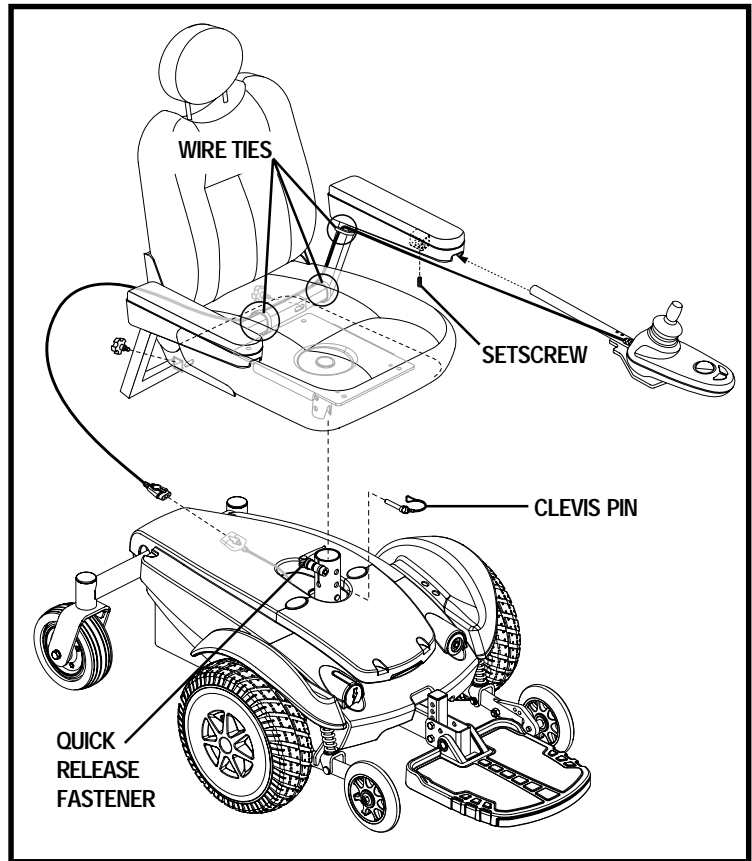

Figure 11. Seat and Controller Assembly
1. Slide the seat down onto the power base. See figure 11.
2. Tighten and clamp the quick-release fastener. See figures 11 and 12.
3. Install the joystick module into one of the armrests. Tighten the setscrew with the supplied hex key. See figure 11.
4. Route the joystick module cable as shown and secure with wire ties. See figure 11.
Quick Release Fasteners: The seat is secured to the seat post with a quick release fastener. The quick release fastener consists of a bolt, a lever and a nut. See figure 11. The lever has a cam on the end that allows it to clamp into place. The quick release fastener has two states: clamped and unclamped. When the lever is open, the quick release fastener is unclamped. When the lever is closed, the quick release fastener is clamped.
10. Route the joystick module cable along the seat frame and secure with wire ties. See figure 11.